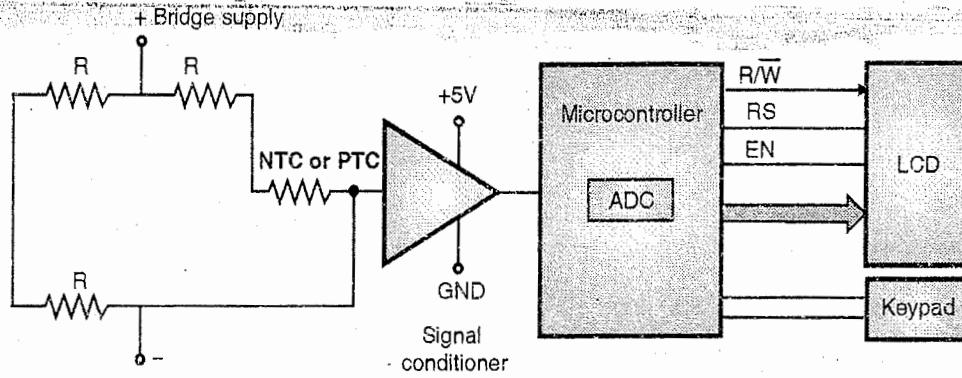

Fig. 3.9.3 : Prototype instrument for a PTC or NTC based temperature measurement using the microcontroller
- (c) **Negative temperature coefficient (NTC)** or **positive temperature coefficient (PTC)** or **linearised thermistor**. Fig. 3.9.3 shows a prototype instrument for a PTC or NTC based temperature measurement using the MCU.